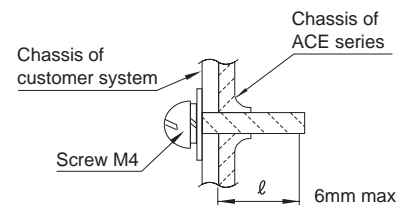

Fig. 4.5 Mounting screw
■ Maximum length of mounting screws is 6mm (Refer to Fig. 4.5).